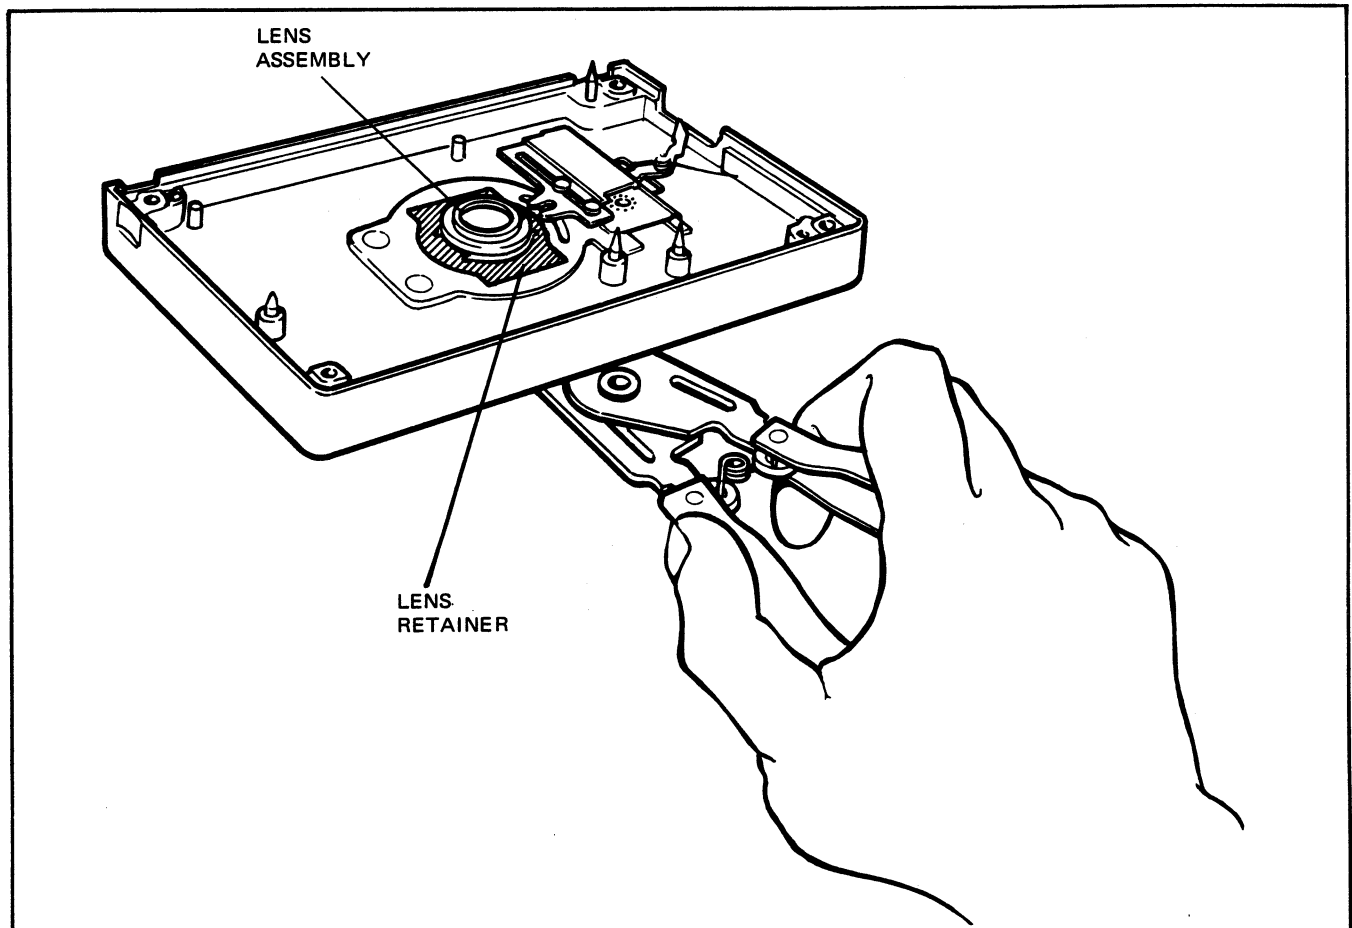

FIG. 5.15 REMOVING THE FRONT LENS - PLASTIC SHUTTER HOUSING
2. Remove the front lens assembly from the camera using tool #169446. Position the tool in the lens mount and squeeze the handle until the head is firmly against the mount (Figure 5-15). Rotate the handle **counterclockwise** until the lens assembly is free of the lens retainer.